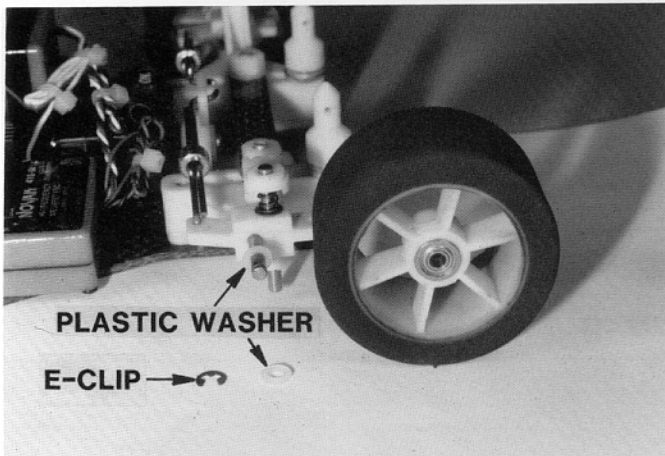

Fig. 58
□ **Figs. 58 & 59**—Slide a plastic washer onto the front axle, slide the wheel assembly on, then slide another plastic washer on, and install the E-clip. Make sure the E-clip is fully seated.